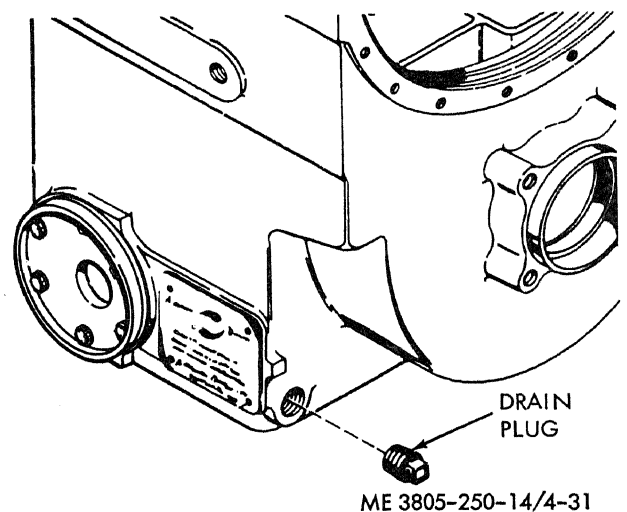

Figure 4-31. Draining transmission oil.
(1) *Draining.* With the transmission at operating temperature (180° F), remove the drain plug at the lower left rear of the transmission housing (fig. 4-31). Remove the oil filter (subpara e) and service the oil strainer (subpara f). Allow the oil to drain for 30 minutes. Install the oil strainer and a new filter element.
- (1) Remove the drain plug (fig. 4-31) and allow oil to drain from the transmission.
- (2) Clean all oil lines and fittings before removal. If several lines are to be replaced, tag lines to ensure proper installation.
- (3) Disconnect clamps or attaching hardware and remove line which is to be replaced.
- (4) Install a new line by reversing the removal procedure.